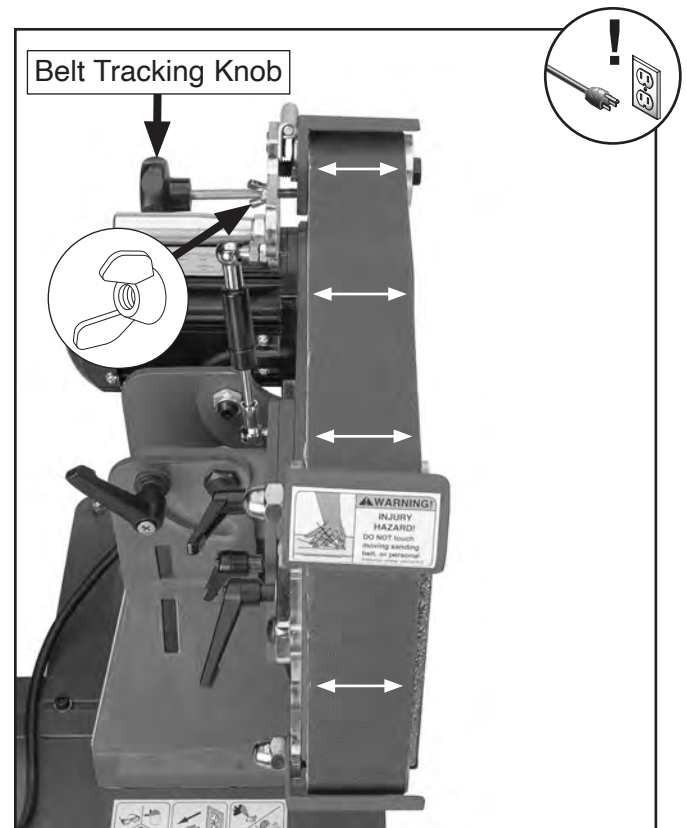

Figure 30. Belt tracking components.
3. Loosen wing nut shown in **Figure 30**.
- Turn knob *clockwise* to move belt *left* on wheels and platen (see **Figure 30** on **Page 23**) and turn knob *counterclockwise* to move belt *right*.